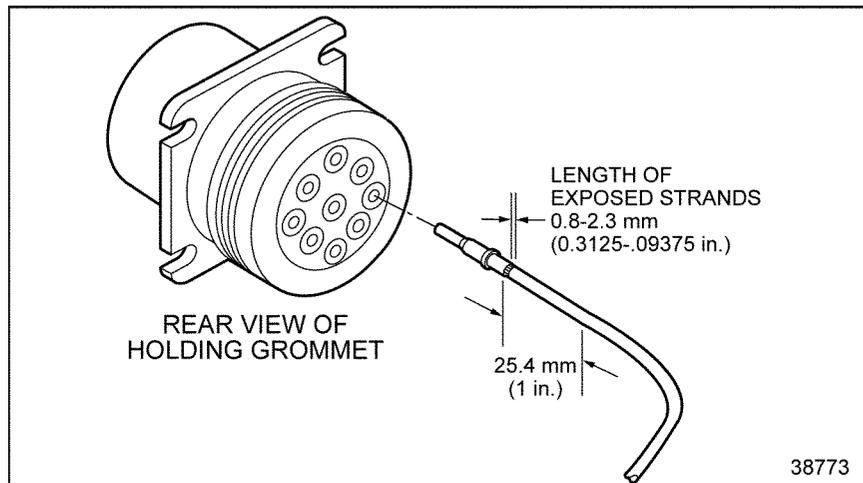
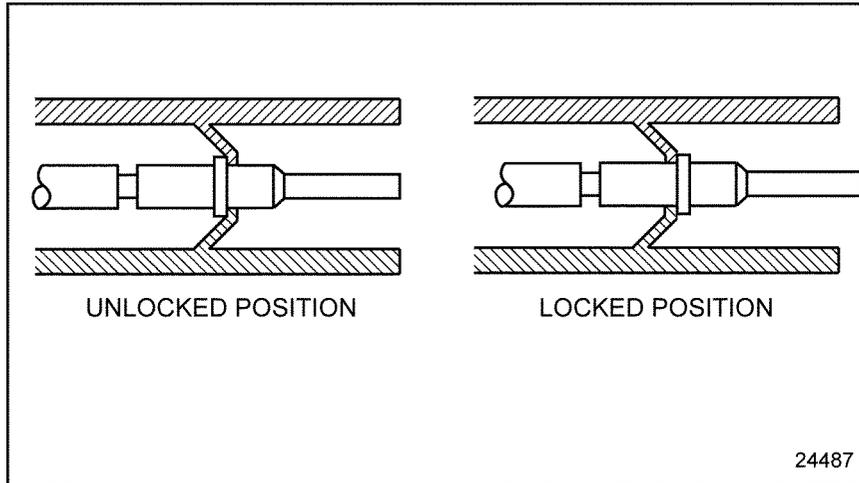

Figure 3-15 **Pushing Contact Into Grommet**
Figure 3-16 Locking Terminal Into Connector
5. Grasp the contact approximately one inch behind the contact crimp barrel. Hold the connector with the rear grommet facing you. See Figure 3-15.
6. Push the contact into the grommet until a positive stop is felt. See Figure 3-15. A slight tug will confirm that it is properly locked into place. See Figure 3-16.